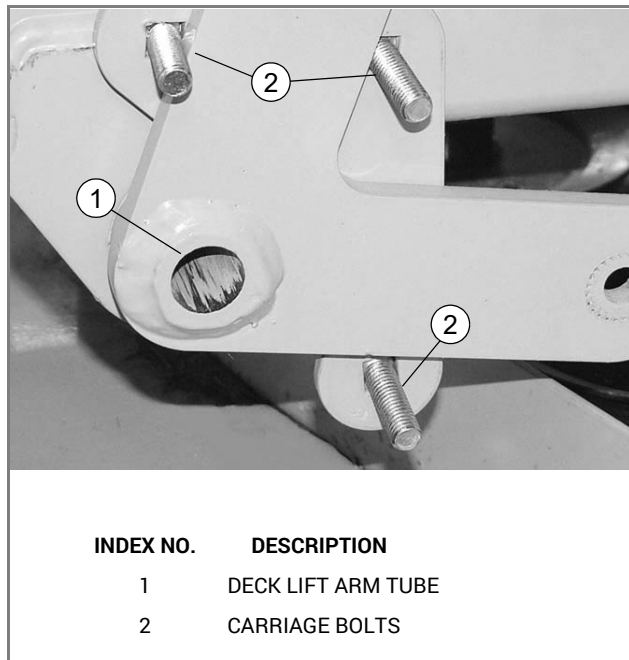
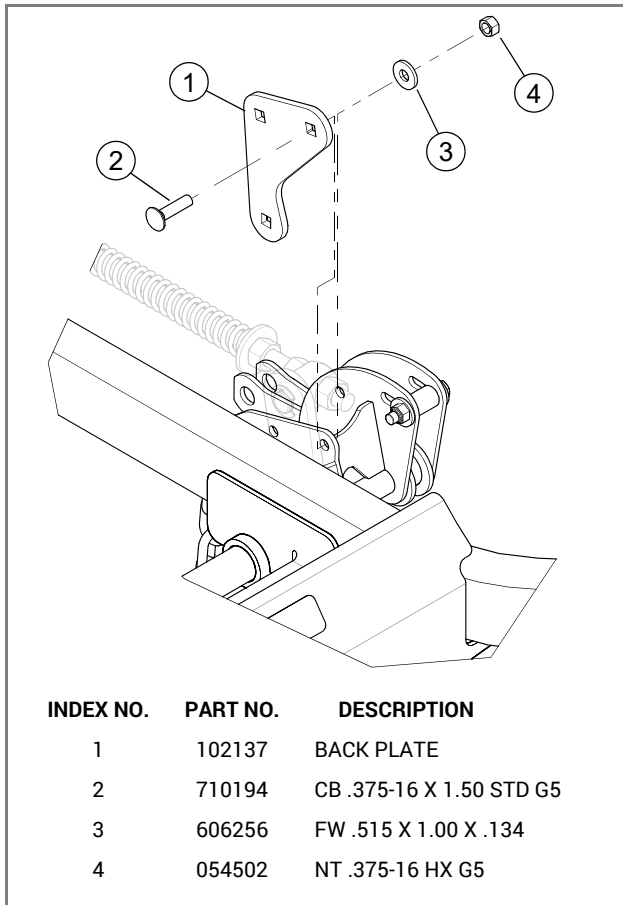

FIG. 3
FIG. 5
6. File off any burrs or excess paint inside the deck lift arm tube. FIG. 3
9. Attach the back plate to the lift mount assembly using the provided hardware. Insert two carriage bolts into the back plate and slide over the left front deck lift arm, but do not tighten. FIG. 3 & FIG. 5